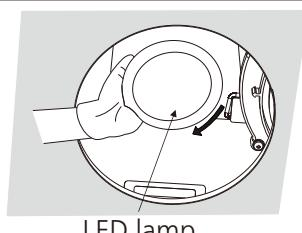

Fig. 8
12. Install the supplied LED lamp. (Fig. 8)
3. Replace the 11 W BR30 shape LED lamp (model: 11BR30G4DIM/927/GU24, from the company Green Creative). (Fig. 8 of page 6)